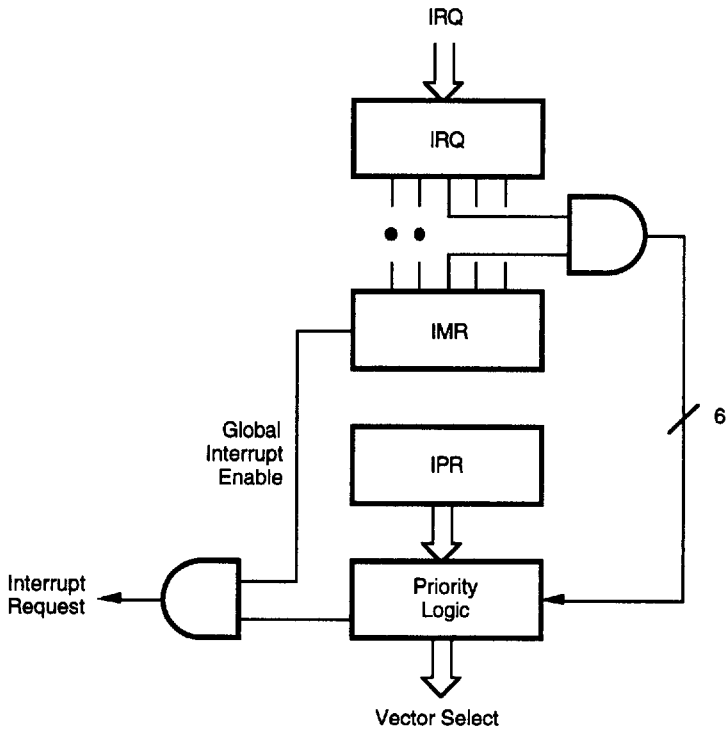

Figure 17. Interrupt Block Diagram
**Interrupts.** The 4LDTC has six different interrupts from six different sources. These interrupts are maskable and prioritized (Figure 17). The six sources are divided as
The crystal source is connected across XTAL1 and XTAL2 using the crystal manufacturer's recommended capacitors (10 pF < CL < 300 pF, where C1=C2=CL) from each pin to device ground (Figure 17).